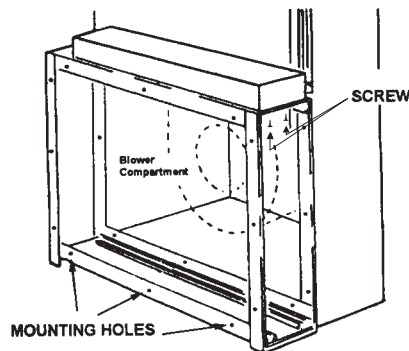

Figure 7
**CAUTION:** Only a trained, experienced serviceman should install this electronic air cleaner. The power supply should be removed before installation. To remove the power supply, remove the two (2) screws (See Figure 7) in the top front of the cabinet. Remember to keep this hardware for reinstallation of the power supply when the air cleaner installation is complete. A thorough checkout of the unit installation should be completed before unit operation.
8. Mounting holes are provided for ductwork attachment (Figure 7). The .140" holes are sized for #8 sheet metal screws, or 1/8" rivets. If the adjoining ductwork is flanged, install the screws so that the screw heads are inside the cabinet. This will prevent damage to the prefilters during removal and installation after cleaning.